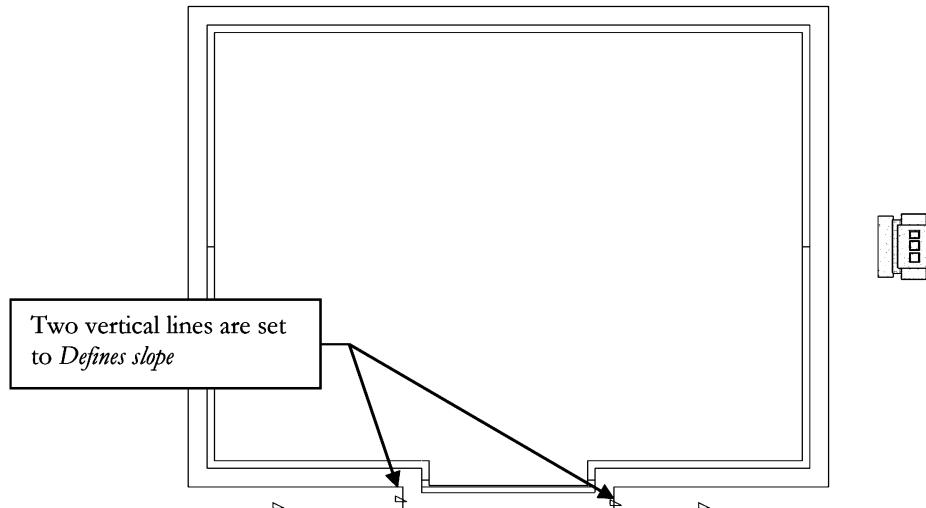

FIGURE 8-2.8 Edit roof sketch
22. Edit the roof sketch to look like Figure 8-2.8.